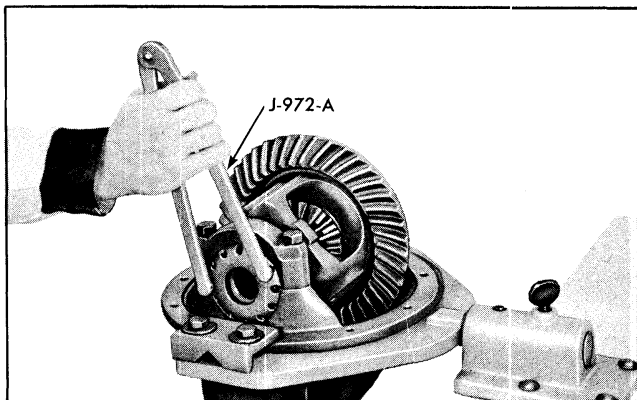

Fig. 4-34 Backing Right Adjusting Nut with J-972-A
2. Back off right hand adjusting nut (Fig. 4-34) one notch and tighten left hand adjusting nut one notch (each notch of adjustment will change backlash .002"—.004"), depending on ratio.